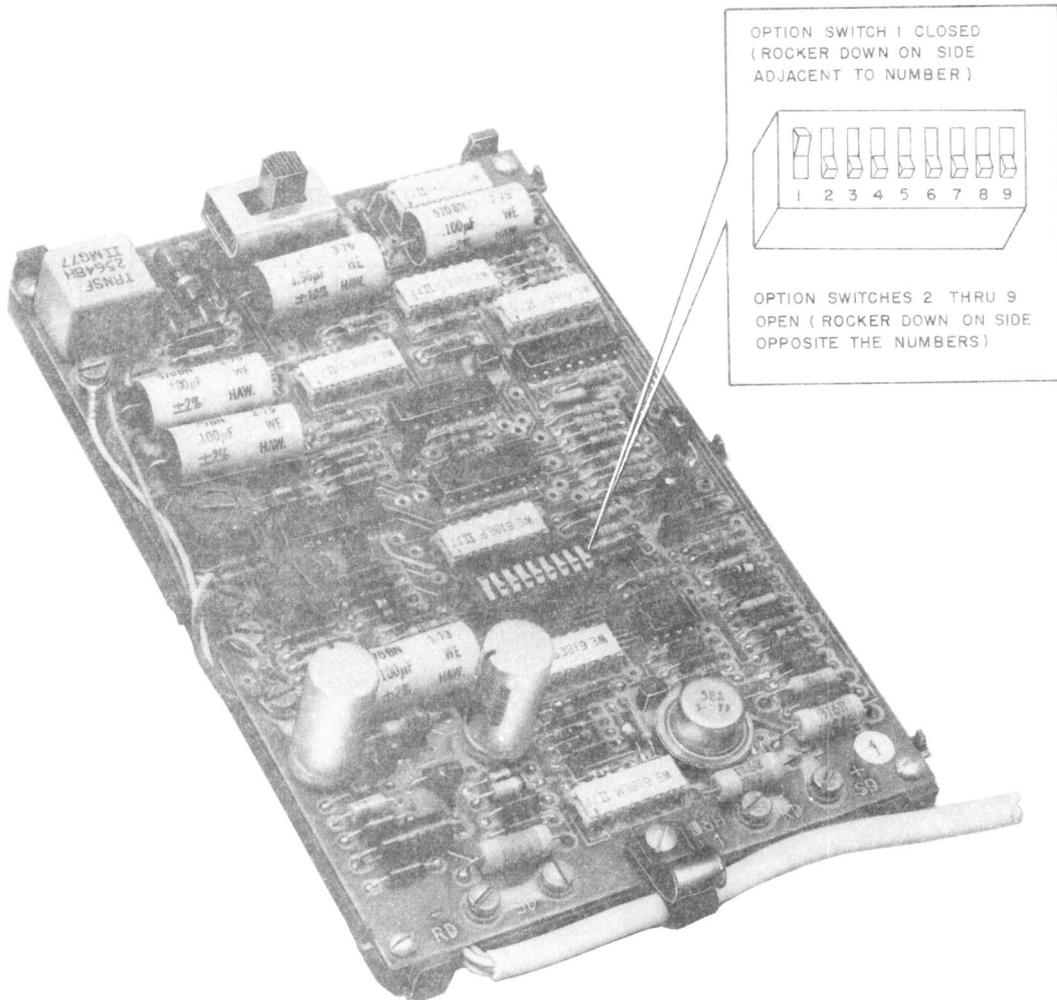
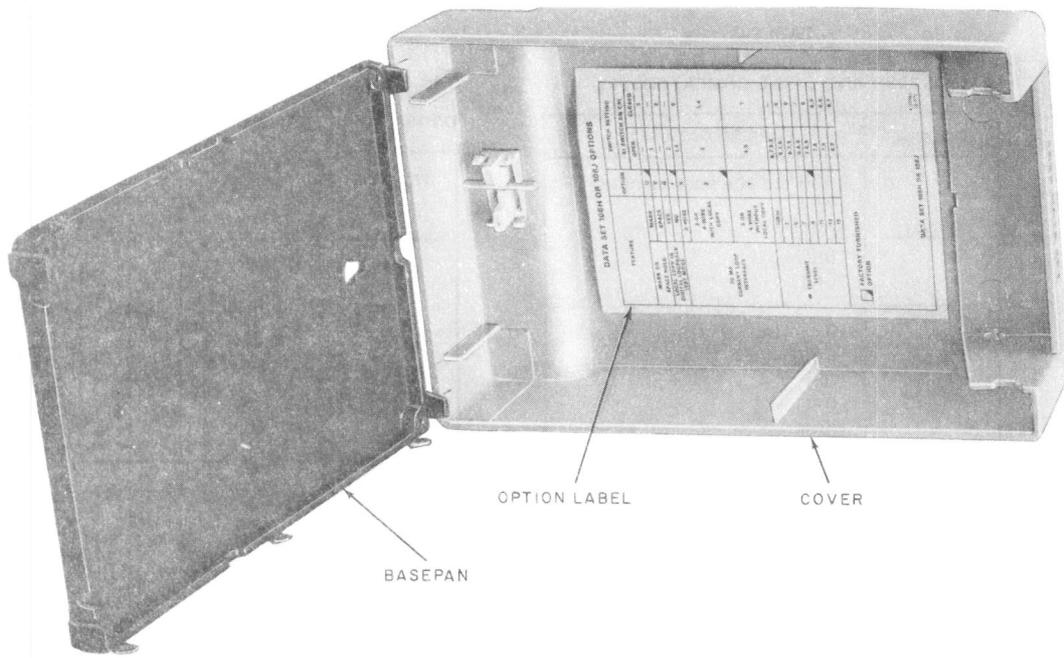

Fig. 2—Circuit Pack of DS 108H Showing Detail of Option Switch S1 (Similar to DS 108J)
Fig. 3—DS 108H or J Housing With Option Label Installed
2.01 The DS 108H and J are provided with a number of options which are installed prior to placing the data set in service. All options are installed or removed with the switch (S1) shown in Fig. 2. Each option and associated switch setting is listed in Table A. Similar information is contained on the option label located inside the cover of the data set housing (Fig. 3). Additional option labels may be obtained by ordering Form E-10065.